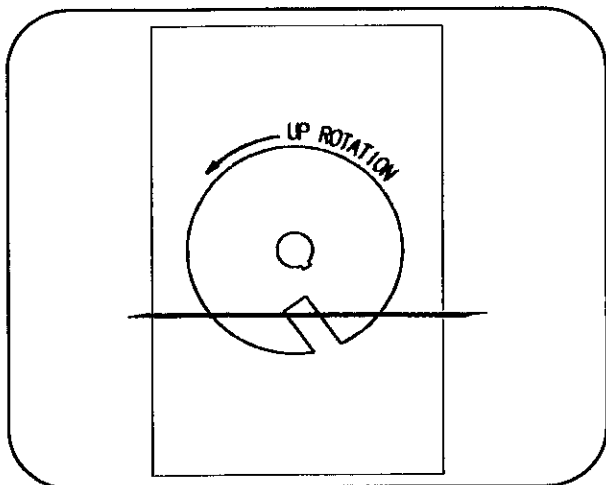

Figure 16
2. Mount the Winch Motor to the Motor mount as shown in Figure 16 using 5/16-inch x 3/4-inch bolts supplied in hardware bag. DO NOT LIFT MOTOR BY ELECTRICAL CORDS.